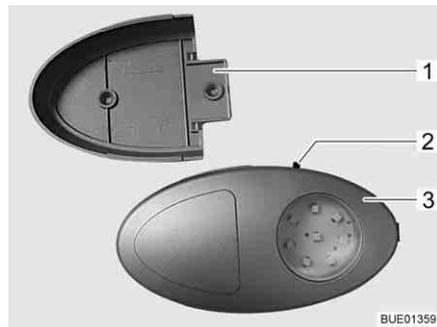
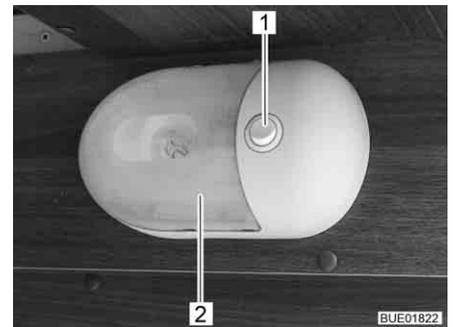

Fig. 91 Wardrobe light/torch
Fig. 92 Wardrobe light
- ▷ The wardrobe light can be removed from its holder (Fig. 91,1) and used as a torch.
The On/Off switch (Fig. 91,2 or Fig. 92,1) is located directly on the wardrobe light (Fig. 91,3 or Fig. 92,2).